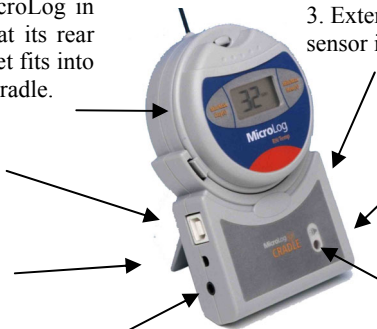

Figure 6: MicroLog and Cradle
To set up MicroLog (see Figure 6 above):
2. Connect an external sensor if needed (see 3 in Figure 6 above).
You **must** connect the AC power adaptor (see 4 in Figure 6 above). When the alarm operates the LED indicator lights in red light.